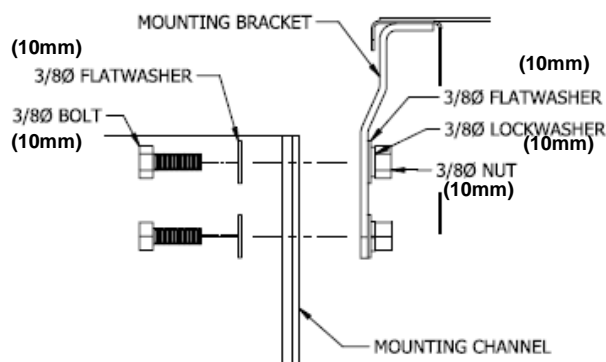

Figure 21 - Mounting Base Installation
2. Use M10 (3/8") flat washers, lock washer and nuts to secure the mounting channel to the bracket (See Figure 21)